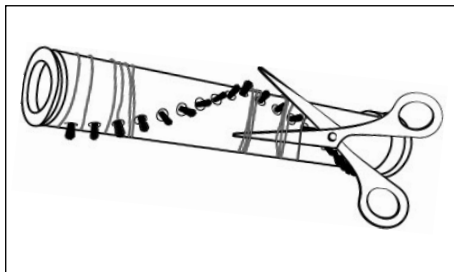

Fig. 27
- 3) Cut threads and hairs along the bristles of the rotary brush 20 with scissors (see Fig. 27). Remove threads and hair from the rotary brush 20.